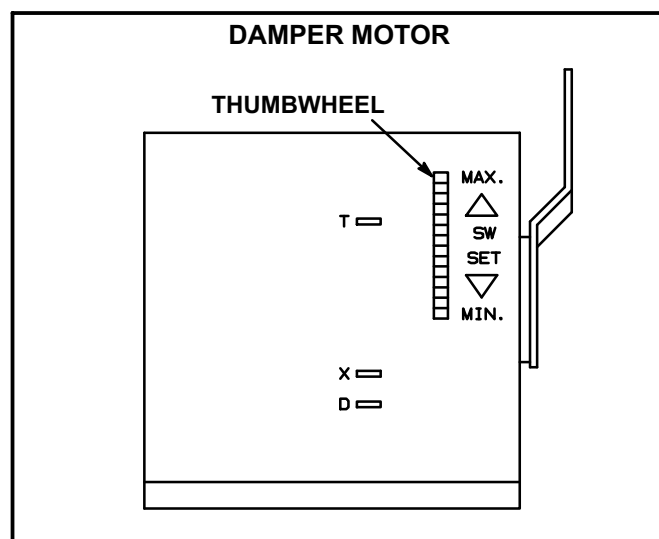

FIGURE 29
- 7- If fresh air percentage is less than desired, adjust thumbwheel higher. If fresh air percentage is more than desired, adjust thumbwheel lower. Repeat steps until calculation reads desired fresh air percentage. See figure 29.
Set damper minimum position in the same manner as economizer minimum position. Adjust motorized damper position using the thumbwheel on the damper motor. See figure 29. Manual damper fresh air intake percentage can be determined in the same manner.